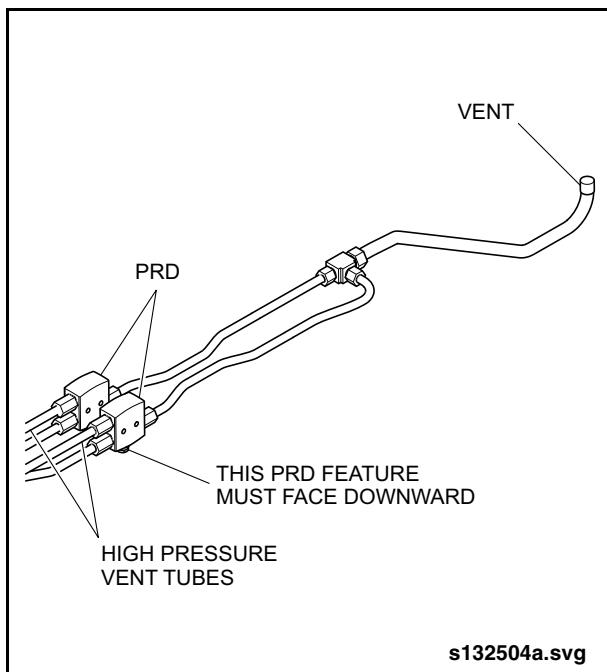

Fig. 7-15: PRD Installation
3. Loosen the Swagelok® fittings and disconnect vent lines from PRD inlet and outlet ports. See "Fig. 7-15: PRD Installation" on page 60.